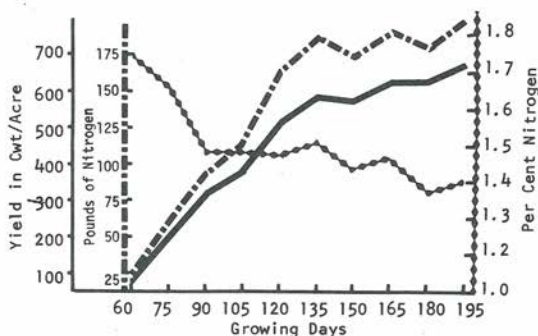

Figure 2—Relationship among yields of potatoes, pounds of nitrogen in the potatoes, and percentage nitrogen in the tubers.
**Figure 2** shows pounds of nitrogen in the potatoes are positively related to yield, while percentage of nitrogen is inversely related to yield. Similar trends occurred for phosphorus and potassium.